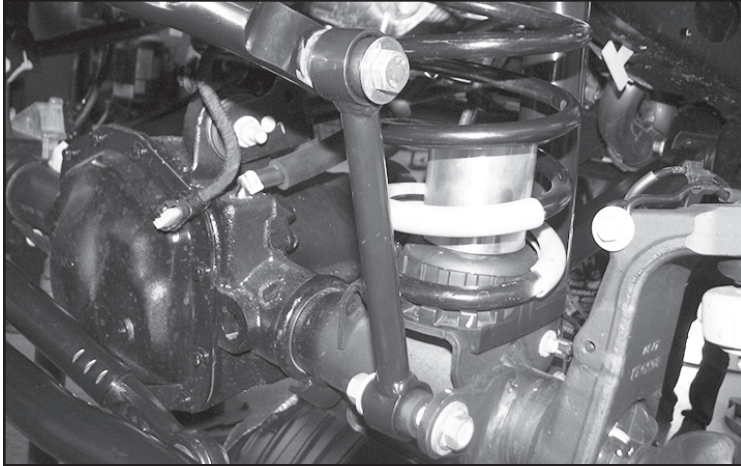

FIGURE 24 - STEP 23
23. Install FT50048 (Bushings) and FT404739 (Sleeves) into FT50261BK (Sway bar links). Then, install the links to the axle mount and sway bar using the supplied M12 x 70mm or M14 hardware (2024 Models) for the upper location and the factory for the lower. Torque to 65 ft-lbs. **SEE FIGURE 24**